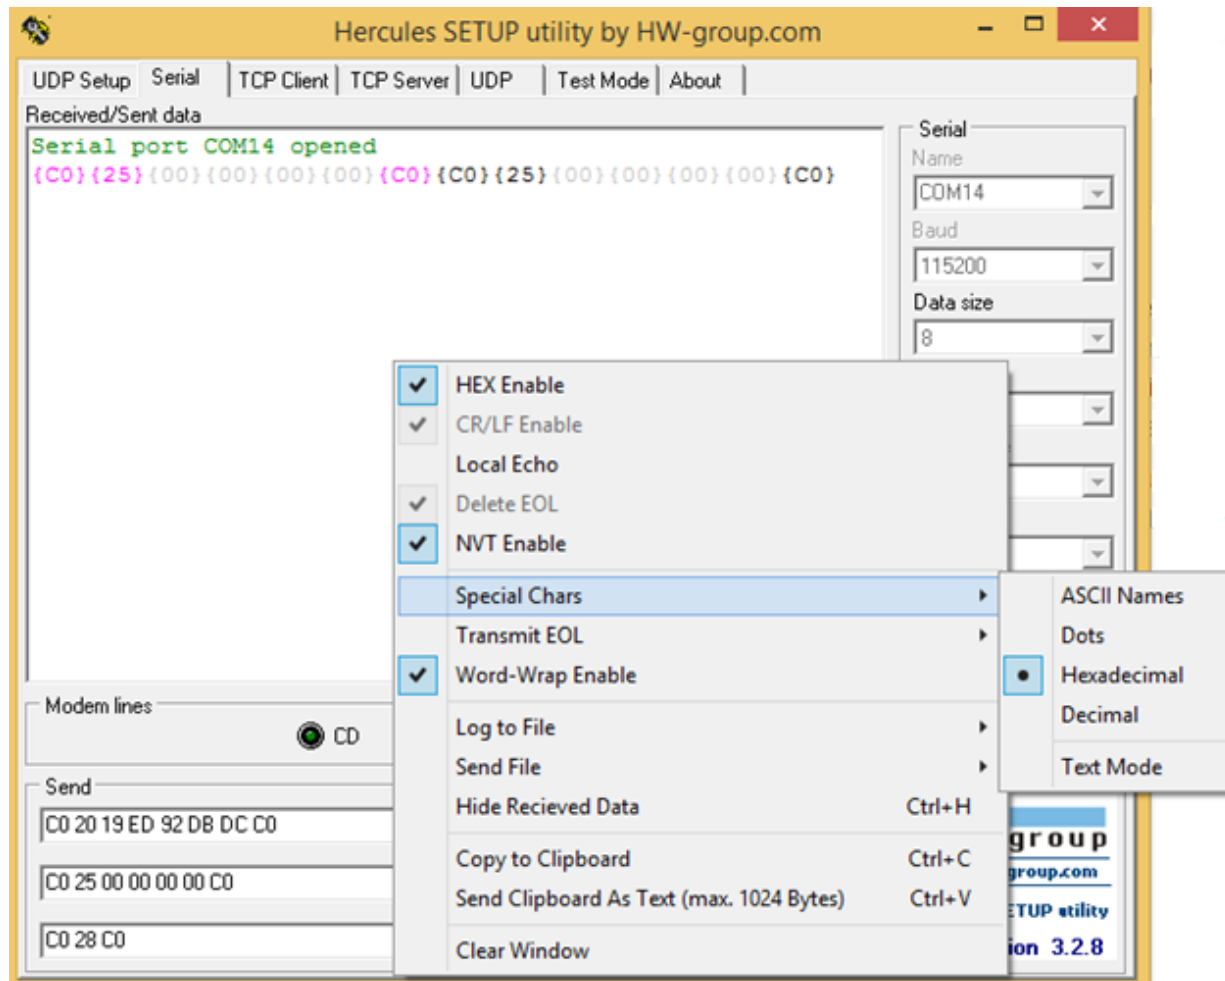

Figure 6 - Hercules SETUP Utility Settings
2. Connect USB-to-UART converter TX to J301 UART1\_RXD pin (4) and RX to J301 UART1\_TXD pin (5).
3. Connect USB-to-UART converter +3.3 V pin to J301 Vcc\_SYS pin (8).
4. Connect USB-to-UART converter ground pin to J301 ground pin (7).
9. Press the right mouse button on the Received/Sent Data screen and ensure that “Hex Enable” and “Special Chars -> Hexadecimal” are turned on (refer to Figure 6)